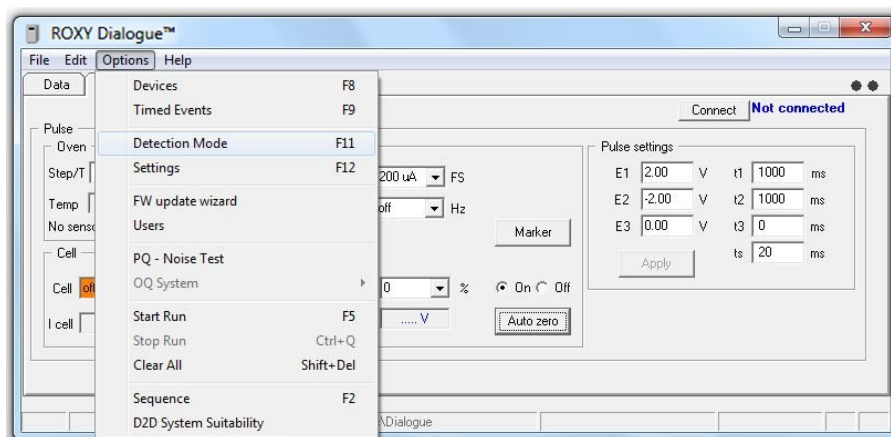

Fig. 10. Pull down menu: Options  $\rightarrow$  Detection Mode.
2. Go to the Options pull down menu and choose "Detection mode" (Fig. 10).